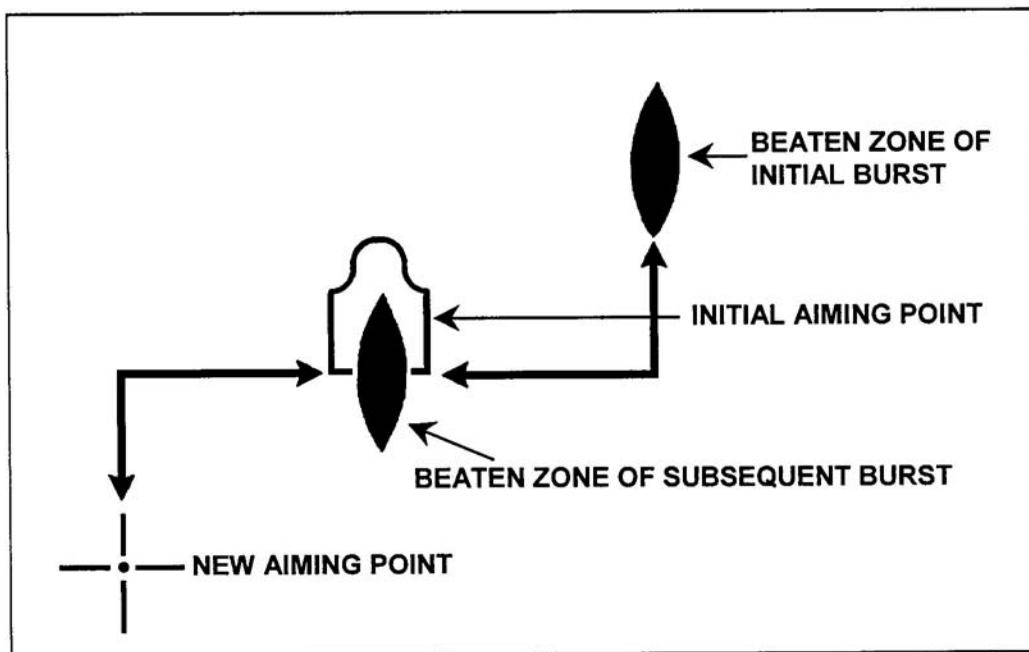

Figure 14. Adjusted aiming point.
- b. Adjusted aiming point. Adjust fire quickly without adjusting the sight. If the initial burst misses the target, rapidly select a new aiming point the same distance from the center of impact of the initial burst but in the opposite direction. Fire a second burst (Figure 14).